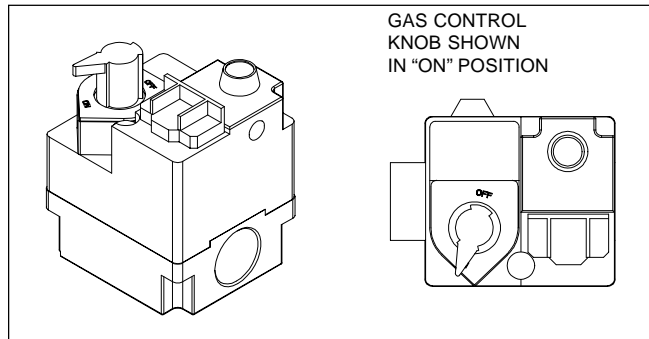

Figure 26. Gas Valve.
5. Turn the gas valve control knob counterclockwise to ON (see Figure 26).